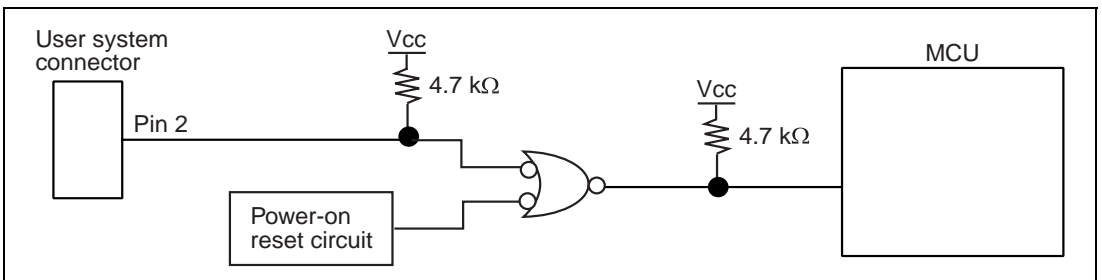

Figure 1.8 Connection of the ETRST# Pin
- The ETRST# pin must be connected as shown in figure 1.8.